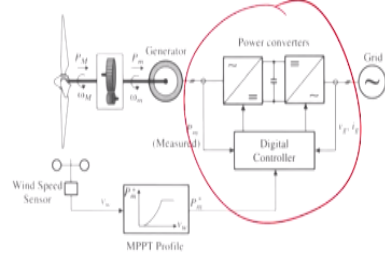

Fig.5: Maximum power control with wind turbine power profile.
- The power reference  $P_m^*$  is generated and sent to the generator control system, which compares the power reference with the measured power  $P_m$  from the generator to produce the control signals for the power converters (see Fig.5).